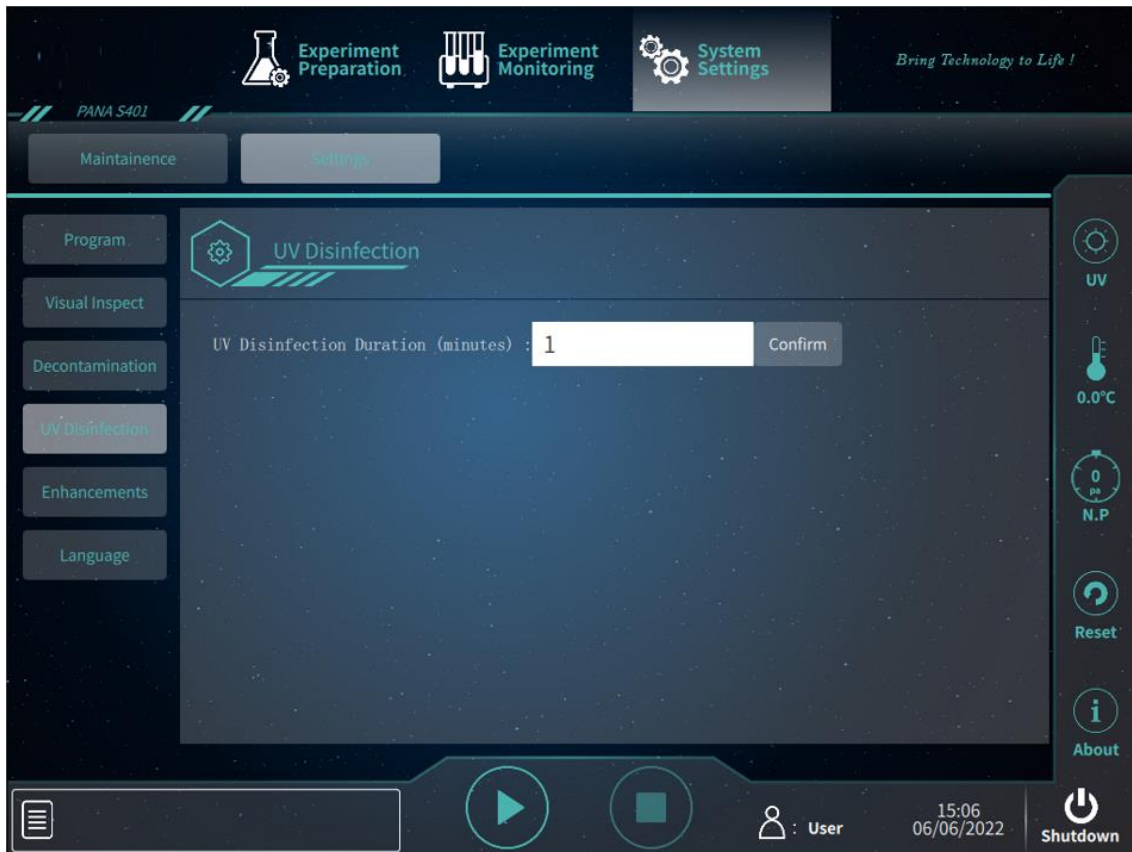

Figure 5-25. System Settings Interface – Settings Tab – UV Disinfection
- ▶ **< UV Disinfection >**: User could click this function key to set the UV disinfection duration which could be set as 1-240 minute(s), as shown in figure 5-25.